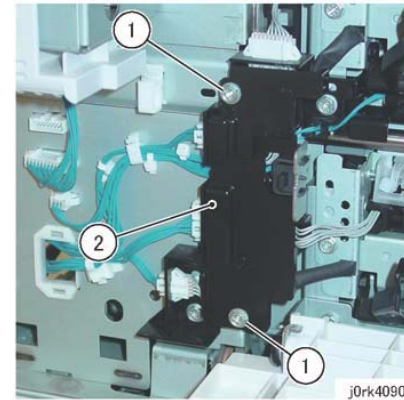

Figure 2 Harness Cover Removal
6. Remove the Harness Cover. (Figure 2)